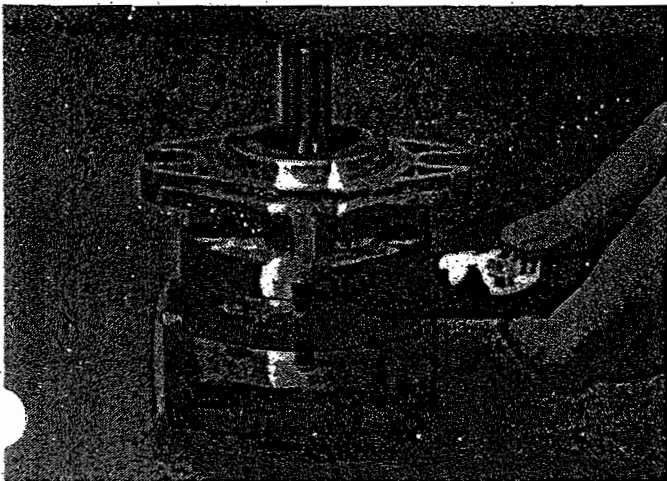

Fig. 2
2. Mark the pump plates on the side nearest to the drive shaft extension. These marks can be matched in the reassembly of the pump. (Fig. 2)